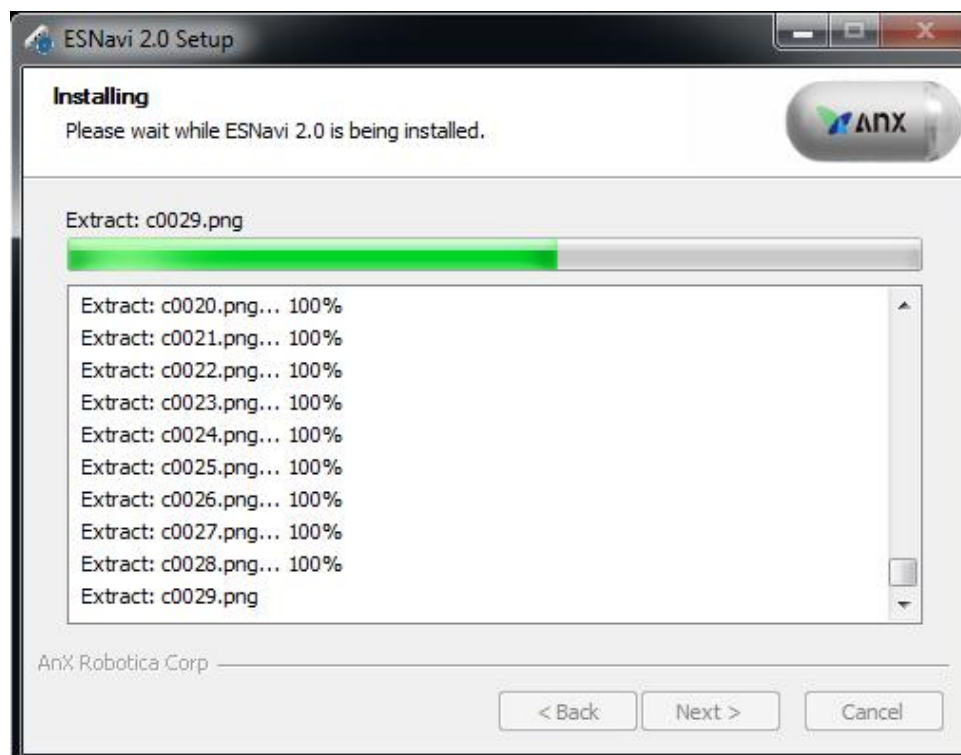

Figure 4-3 Installation Interface
3. Click "Next" to access installing interface as shown in Figure 4-3.